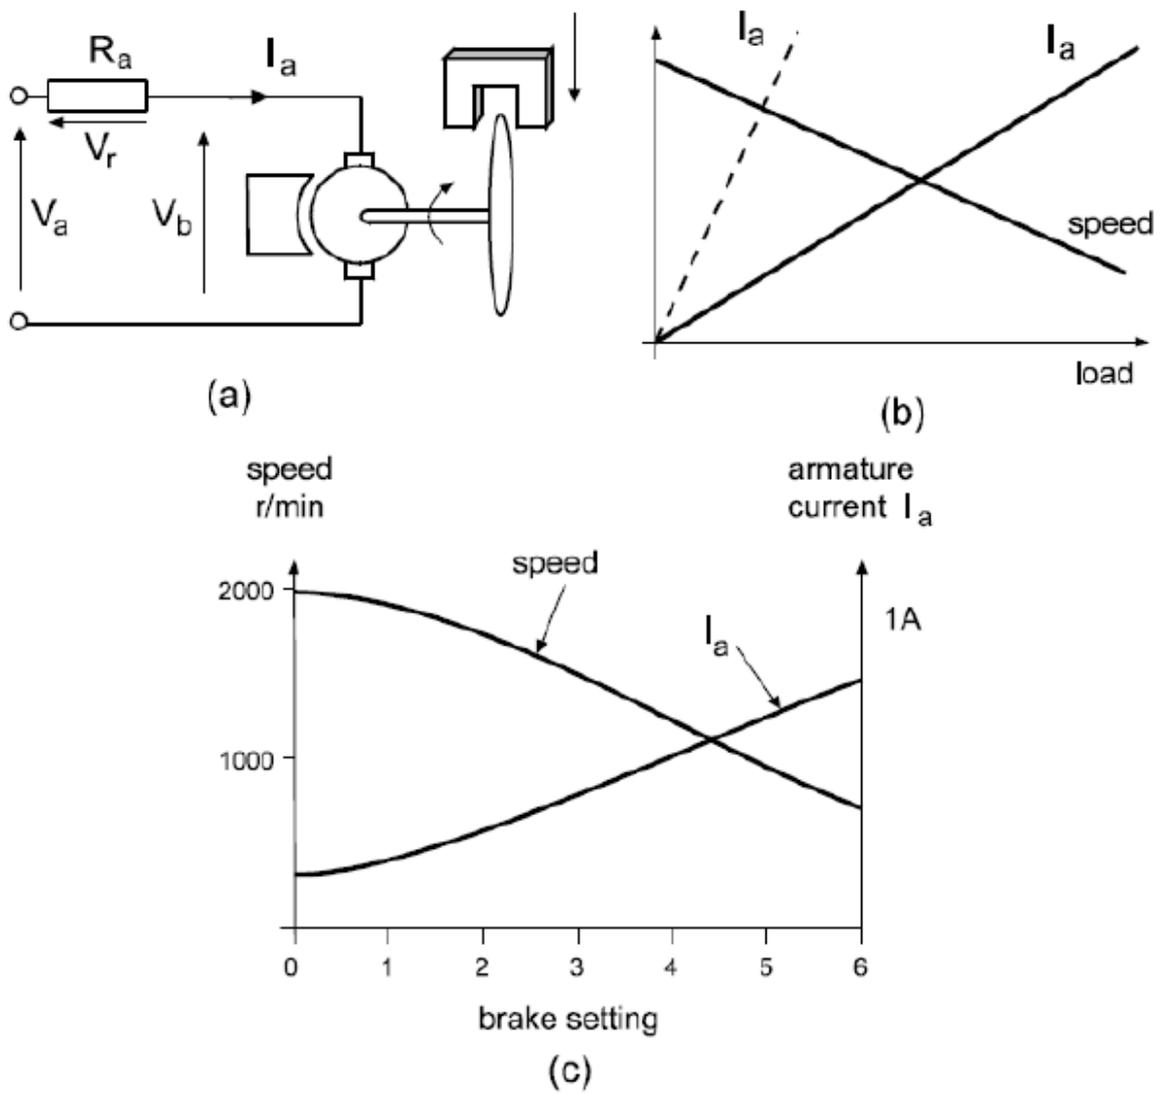

Figure 9. Motor Characteristics Related to Load.
Considering the idealized motor shown in Figure 9(a), when the motor is unloaded the back emf V_b substantially equals the applied voltage V_a , the armature current being very small. When the motor is loaded the speed falls, the back emf falls, and the armature current increases and the voltage drop in the armature resistance $V_r (= I_a R_a)$ added to V_b matches V_a , that is:
Hence, if the motor is loaded so that the speed falls, the armature current increases, the general characteristic being as the solid lines in Figure 9(b). If the armature resistance is low, which is the situation for a normal motor, the current increases greatly, as shown dotted, for a small
3. **Plot the speed and armature current against brake setting**, the plot should have the general form of Figure 9(c).